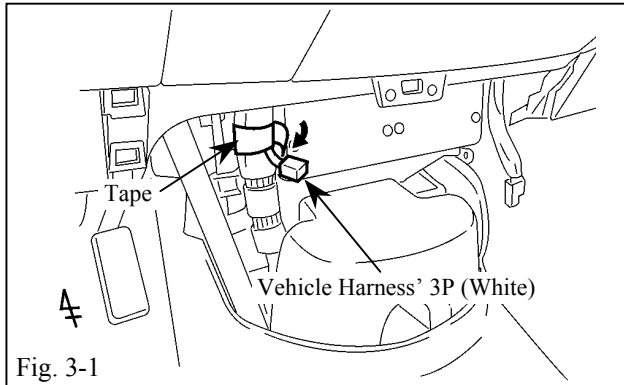

Fig. 3-1
- (a) Locate the vehicle harness' white 3P connector from the driver's side bottom of the center cluster area. Remove the tape from the connector. (Fig. 3-1)